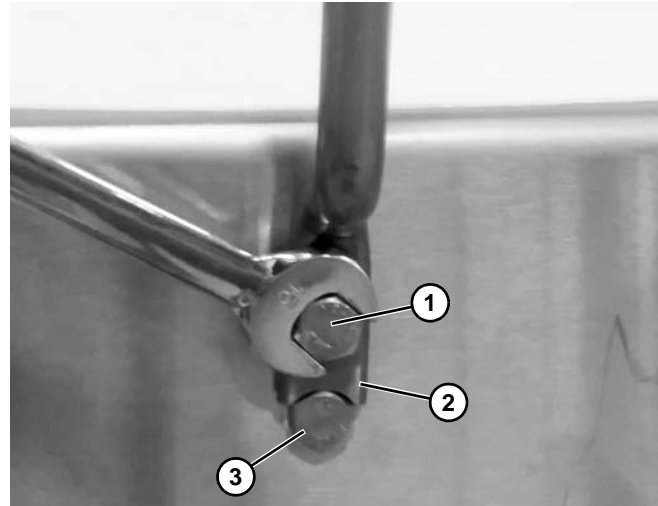

Figure 37
1. Remove the top screw (Figure 37, item 1).
2. Install the guide post (Figure 37, item 2) resting on lower screw (Figure 37, item 3). Reinstall top screw and tighten.